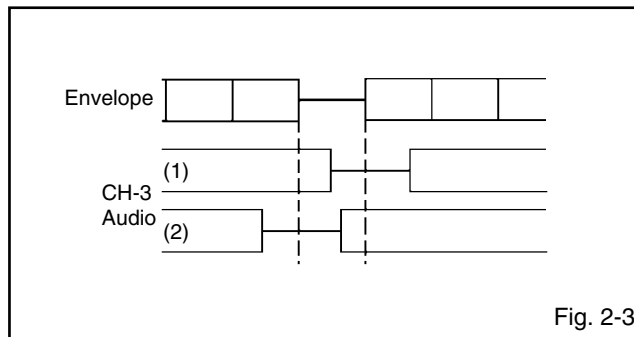

Fig. 2-3
8. Set the X Value adjustment driver (**GGF1510**) to the ④ of **Fig. 2-2-B**. Adjust X value so that the envelope waveform output becomes maximum. Check if the relation between Audio and Envelope waveform becomes (1) or (2) of **Fig. 2-3**.